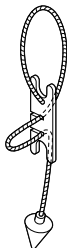

Fig.5.3
- 1) Use the plumb bob ⑮ to set up the instrument directly above the surveying point. (Fig.5.3)